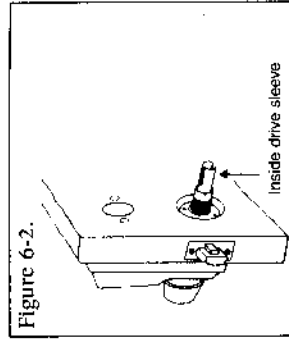

Figure 6-2.
4. Turn the inside drive sleeve to the stop position and hold (see Figure 6-2). The latch will retract until it is flush with the face plate. Release the sleeve — the latch should return to the fully extended position.